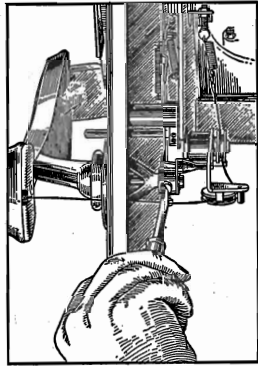
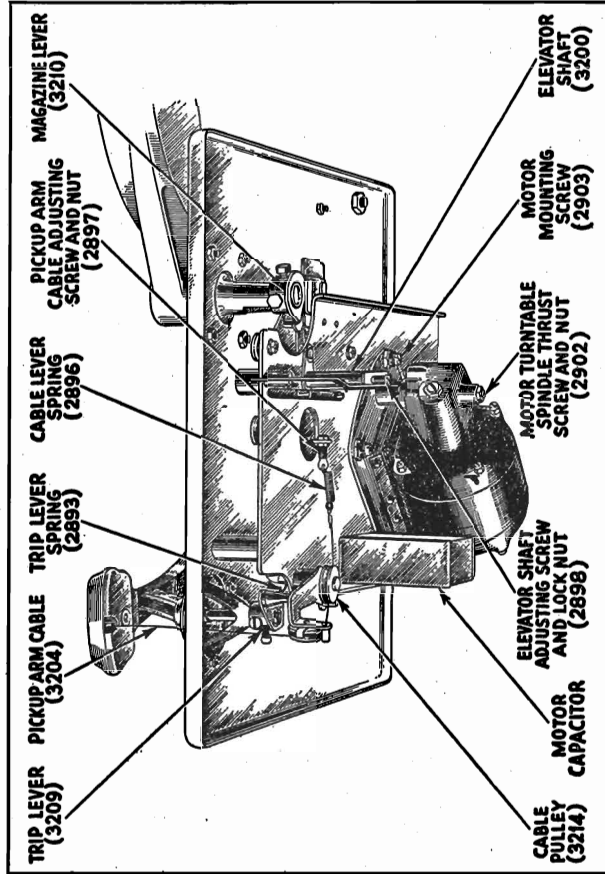

Figure 5—Adjusting position of lone arm
Figure 15—Bottom view of mechanism showing parts
- (a) Improper Tone Arm Setting. Loosen the set screws as shown in Figure 5. With the mechanism out of its cycle, press the locating lever at a point near the flat spring until the lever strikes the stop screw. Holding the locating lever, Figure 17, in this position, move the front portion of the trip lever, Figure 15, until the pin against which the flat spring presses, is making contact with the locating lever. Holding the two levers in this position, move the pickup arm until the needle is $\frac{1}{16}$ " from the first groove of a standard 10-inch record. Now retighten the two set screws shown in Figure 5.